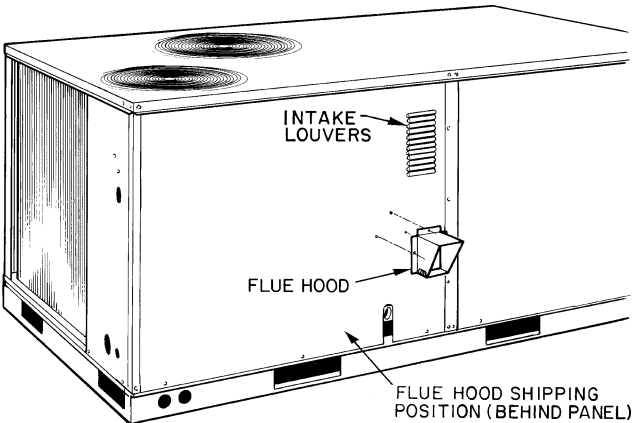

Fig. 8 — Flue Hood Details
Step 5 — Install Flue Hood — Flue hood is shipped screwed to the burner compartment access panel. Remove from shipping location and, using screws provided, install flue hood and screen in location shown in Fig. 8.